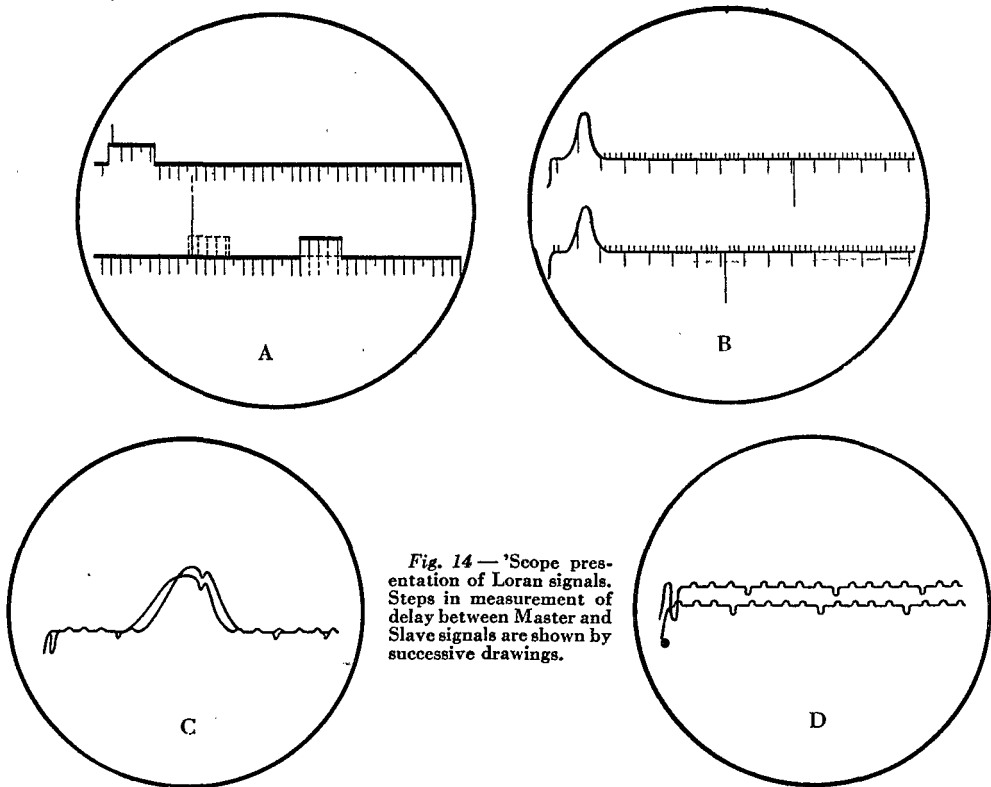

Fig. 14—'Scope presentation of Loran signals. Steps in measurement of delay between Master and Slave signals are shown by successive drawings.
Fig. 14 illustrates a sequence of 'scope presentations which would enable a navigator to ascertain a line of position. The first (a) shows a single pair of signals. The pair has first been selected by means of a numbered rate switch which in one of its positions makes them stand still. Any slight drift is stopped by correcting the indicator crystal oscillator. The Master signal has been set upon the upper pedestal in accordance with a simple operating rule. The Slave signal sits where
it will on the lower trace. Their amplitudes have been adjusted by the receiver gain control to a convenient value for the weaker signal and a discriminating amplitude-balance control has attenuated the stronger signal until it matches the weaker. The manual delay controls move the lower pedestal underneath the Slave signal, as indicated by the dotted lines in Fig. 14(A) so
that the pip stands in the same relation to the pedestal as the Master signal does to its pedestal. This gives a first approximation of the delay between the Master and Slave signals. As the sweep speed is increased in two steps, the pips widen out into pulses. This constitutes an electronic magnification of the left side of the pedestals. Fig. 14(C) shows the traces collapsed by means of the trace
Let us switch back to the slowest sweep and determine the delay. We will use Figs. 14(A), (B), and (D) to demonstrate how the delay between arrival of Master and Slave signals may be measured to a microsecond. Ordinarily, at this point, the navigator cuts off the receiver lead to the 'scope so as to avoid distraction. Only the 500-microsecond markers are clearly visible on the traces, pointing downward, each fifth one somewhat shortened to aid in the identification. Usually the Master pedestal has been adjusted so that its left edge occurs at the second visible 500-microsecond marker. Counting markers to the right we find that we have moved the lower pedestal so that there is an approximate reading of $4000 \pm$ microseconds delay between the Master and Slave signals.
A medium-fast sweep is now switched on. Fig. 14(B) shows the 50-microsecond markers as the predominant ones, pointing down. The 10s are pointing up. (The 500s are displaced slightly to the right of the 50s.) Starting with a convenient 500-microsecond marker on the lower trace, we count off to the right by 50s until we reach the intersection of the first upper trace 500-microsecond marker with the lower line. In the illustration, this seems to be close to 150 microseconds. Adding this second approximation to the first we come out with a total of $4150 \pm$ microseconds delay between the Master and Slave signals.
The last step is to switch on the fastest sweep which makes the 10-microsecond markers apparent as bumps above the trace line, as in Fig. 14(D).